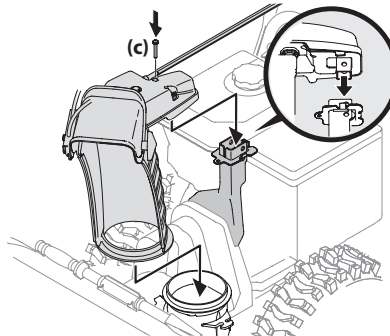

Figure 2-29
3. Place chute onto chute base and ensure chute control rod is positioned under handle panel. Install hex screw (c) removed in Step 1, but do not secure with wing nut at this time. See Figure 2-29.